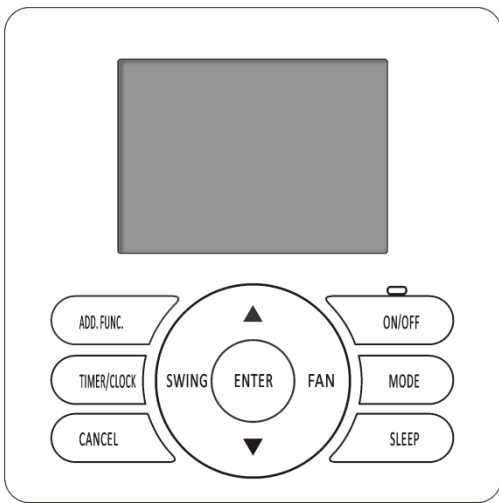
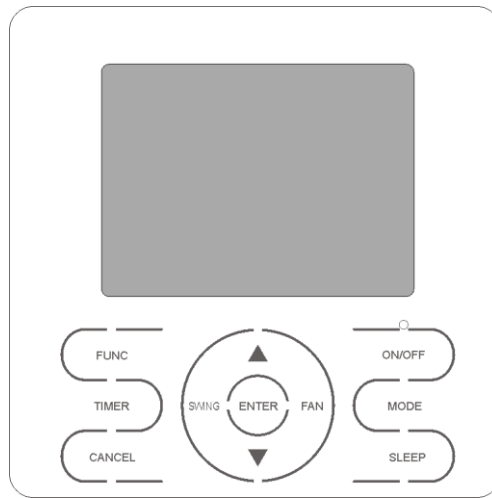

Fig.2 YXE-C01U/ YXE-C02U(E)
Fig.3 YXE-D01U(E)
Fig.2 short wiring
Fig.3 output line
circuit state under the factory state (an external short circuit plug shown as Figure 2).
- 1) When using the room card control, the user cuts off the short wire shown in Figure 2 and connects the red lines to the control switch (supplied by user), and the connecting wire should be 22AWG or above specification. The switch is closed under normal conditions and off under abnormal conditions.
- 2) When using the fire protection , the user cuts off the short wire shown in Figure 2 and connects the White lines to the control switch (supplied by user), and the connecting wire should be 22AWG or above specification. The switch is closed under normal conditions and off under abnormal conditions.
- 3) When using the ON/OFF function, the user cuts off the short wire shown in Figure 2 and connects the White lines the ON/OFF control switch (supplied by user), and the connecting wire should be 22AWG or above specification. In normal conditions, the machine starts once the switch is closed and the machine shuts down once the switch is off.
Fig.2 short wiring (old)
Fig.3 main control board
Fig.2 short wiring (new)
3 pins of the OUT INPUT CN16 socket shown in the electrical wiring diagram of Figure 1 are tacitly approved to be in short circuit state under the factory state (an external short circuit plug shown as Figure 2), and the OUT INPUT CN16 socket of main control board is shown as Figure 3.
- 4) When using the roomcard control or fire protection , the user cuts off the short wire shown in Figure 2 and connects the red line and the black line to the control switch (supplied by user), and the connecting wire should be 22AWG or above specification. The switch is closed under normal conditions and off under abnormal conditions.
- 5) When using the ON/OFF function, the user cuts off the short wire shown in Figure 2 and connects the black line and the white line to the ON/OFF control switch (supplied by user), and the connecting wire should be 22AWG or above specification. In normal conditions, the machine starts once the switch is closed and the machine shuts down once the switch is off.